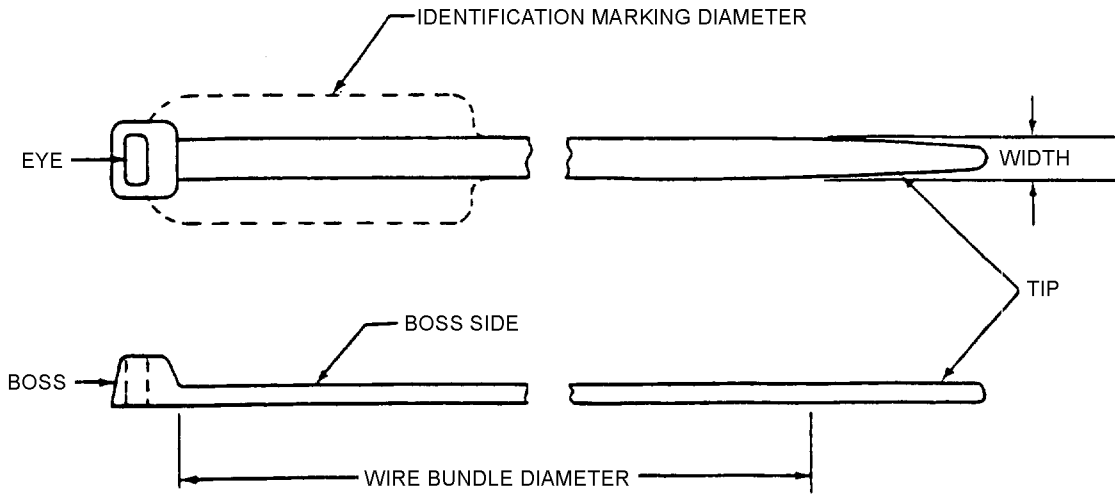

Figure 49. Strap Configuration
70. **SELF-CLINCHING CABLE STRAPS.** Straps are adjustable, lightweight, flat plastic devices used for tying and supporting cable assemblies and wire bundles. The strap configuration is shown in figure 49. The straps are of two types: (1) a MS3367 cable securing strap shown by the bold lines in Figure 49 and (2) an MS3368 identification and securing strap illustrated by the broken lines in Figure 49. Only the black MS3367 (-0) colored strap is authorized for use on aircraft. The black is ultra-violet light resistant and is restricted as follows: